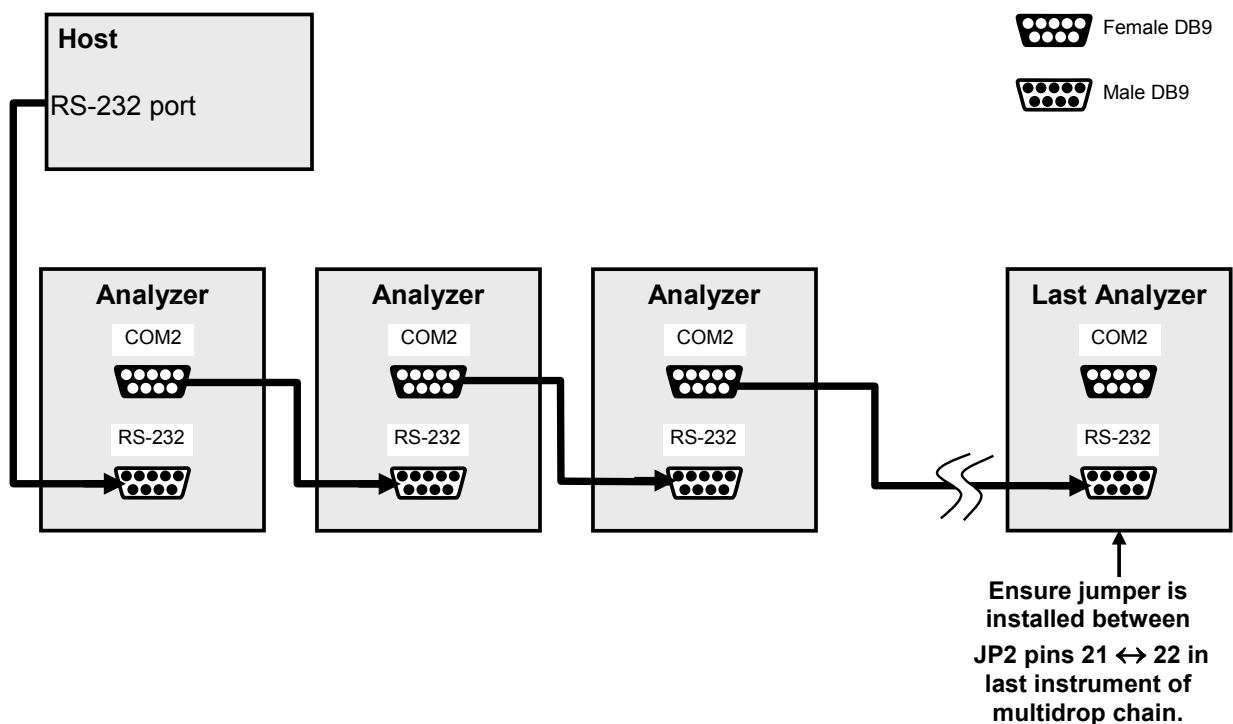

Figure 7-4: RS232-Multidrop PCA Host/Calibrator Interconnect Diagram
4. Referring to Figure 7-4, use straight-through DB9 male-DB9 female cables to interconnect the host RS232 port to the first analyzer's RS232 port; then from the first analyzer's COM2 port to the second analyzer's RS232 port; from the second analyzer's COM2 port to the third analyzer's RS232 port, etc., connecting in this fashion up to eight analyzers, subject to the distance limitations of the RS-232 standard.